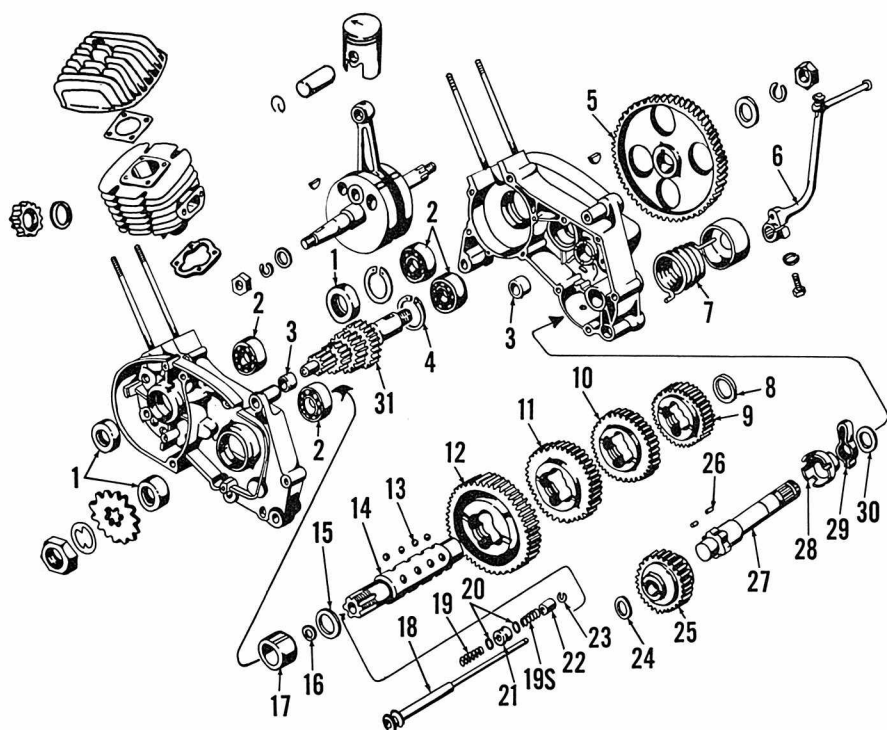

Fig. HK10—Exploded view of the crankcase and four speed transmission assembly. Refer to Fig. HK11 for five speed transmission.
**CRANKCASE AND GEAR BOX.** To disassemble the crankcase and gear box, the engine must first be removed. Remove the cylinder head, cylinder, piston, flywheel, magneto, clutch cover and clutch. Remove screws that hold crankcase halves together and carefully separate the halves. Dowel pins are installed between the halves. Be careful not to damage sealing surfaces of crankcase. Four speed transmission parts are shown in Fig. HK10.